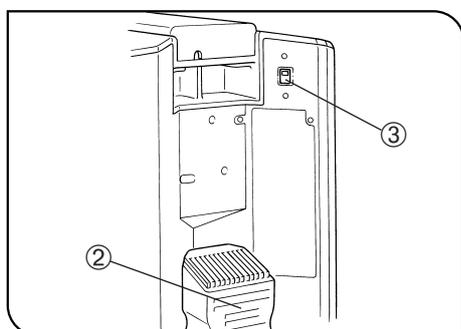

Fig. 2
4. Make sure the voltage selector switch ③ (Fig. 2) located on the rear side of the microscope frame is set to conform with the local supply voltage. (When shipped from the factory, the switch is set to 220-240 V)